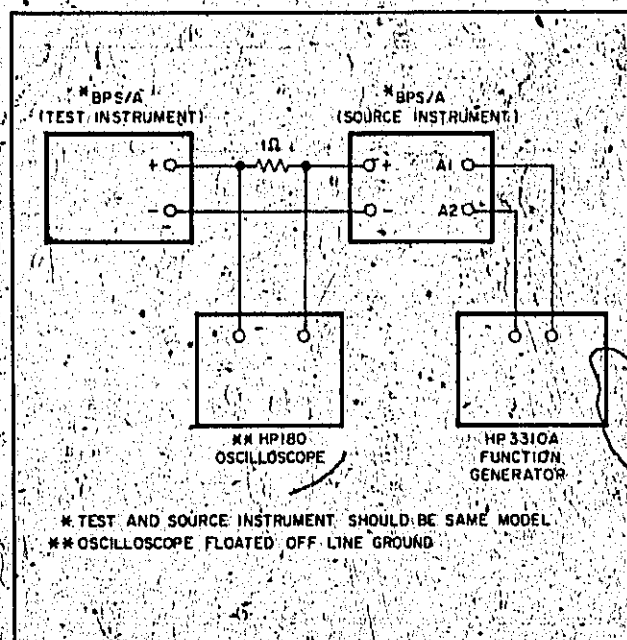

Figure 5-13. Current Sink Test Setup
- e. Turn-off test and source instruments and connect test setup of Figure 5-13.